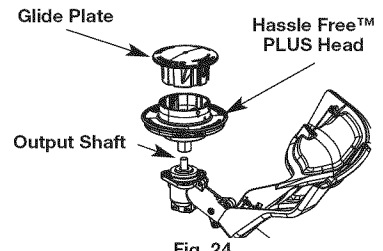

Fig. 24
1. Place the cutting head onto the output shaft and turn counterclockwise until finger tight. (Fig. 24)
3. Use a 1/2 in (13 mm) wrench to remove the cutting head from the output shaft on the gearbox by turning clockwise. (Fig. 24)